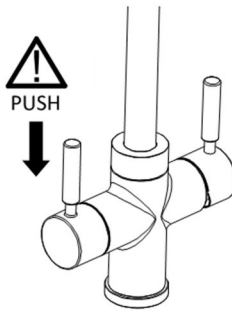
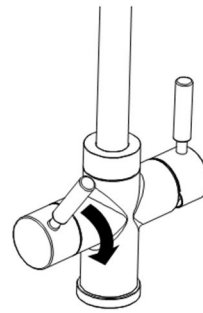

Fig 2.
Fig 3.
- **Hot (boiled & filtered) water** Fully push the left side handle lever down (Fig 2.) and then simultaneously turn the handle forwards (Fig 3.), the further forwards the lever is turned the greater the flow up to a maximum of apx. 45°. It is normal for the hot water to take a moment to start and stop dispensing as the water empties from the product after use.